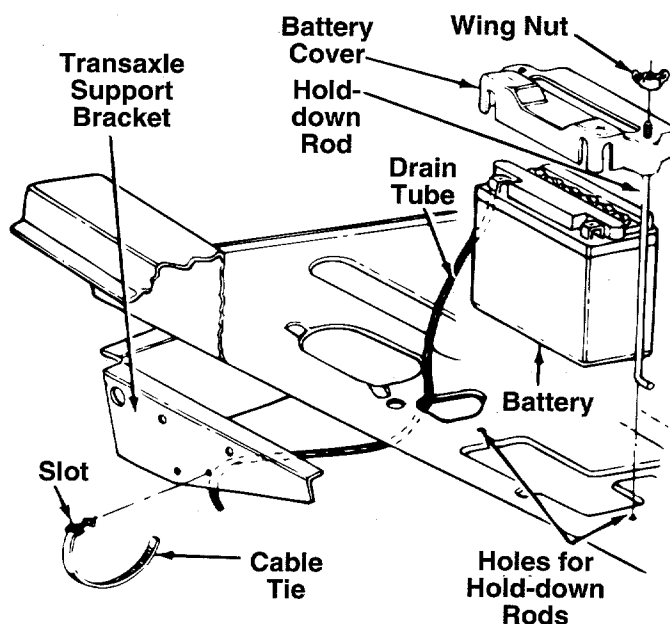

FIGURE 10.
4. Secure the battery in place with battery cover and hold-down rods. Secure with two wing nuts. See figure 10.
5. Route the clear plastic drain tube down through the hole in the frame, next to the engine drain plug, shown in figure 10.